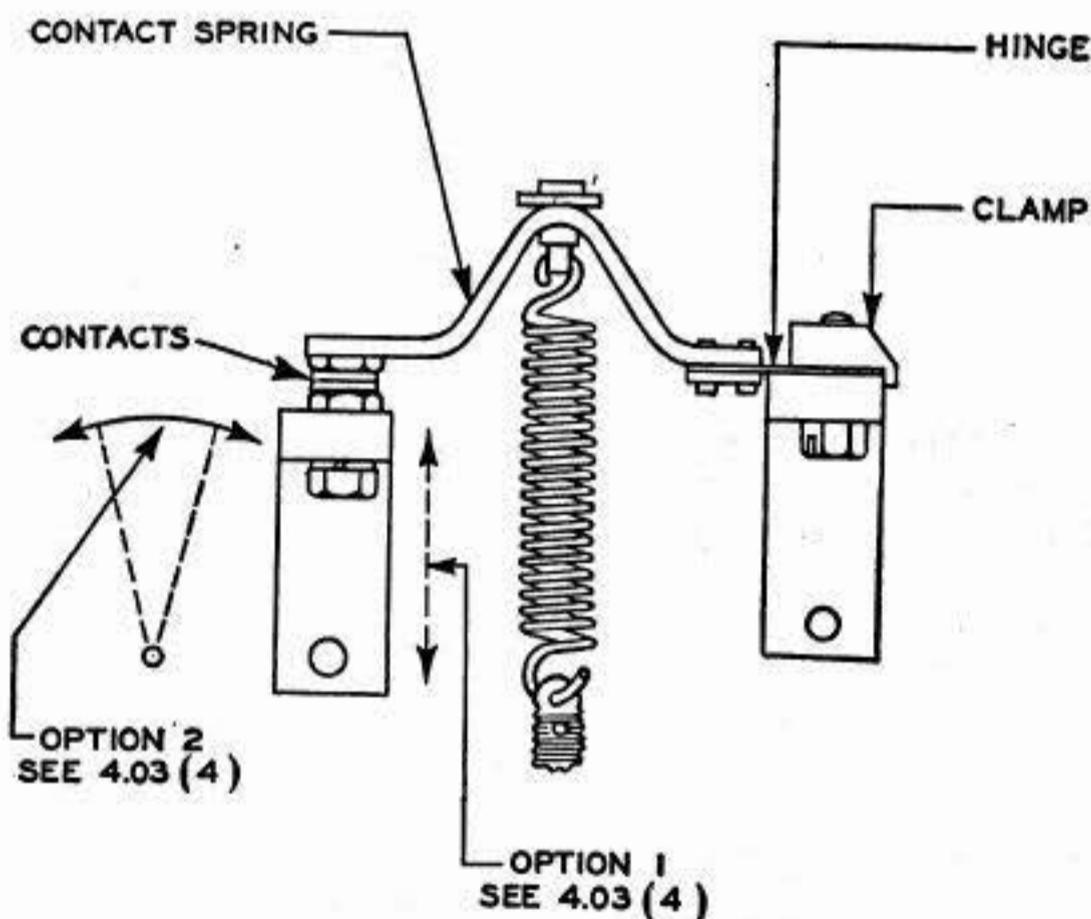

Fig. 6
(1) Adjust the speed-adjusting spring until the contacts just make or to the minimum tension allowed by the adjusting wheel and its screw.
(2) Line up the edges of the contacts by loosening the screw in the contact-spring clamp and reposition the contact spring so that the edge of its contact coincides with the edge of the fixed contact.
(3) In order to align the contacts so that their faces are parallel from front to back as shown in Fig. 6, twist the contact-spring hinge with a pair of long nose pliers by applying pressure to the contact spring near the contact. **Fig. 6**
(4) In order to align the contacts so that their faces are parallel side to side as shown in Fig. 6, one of the two options given below should be used: **Fig. 6**
Where the governor shell is provided with elongated holes for the fixed-contact block mounting screws, loosen the screws and move the block up or down as shown in Fig. 6 until the contact faces are parallel. Tighten the mounting screws. **Fig. 6**
Where the governor shell does not have elongated holes for the fixed-contact block mounting screws, loosen the screws and move the block from side to side as shown in Fig. 6 until the contact faces are parallel. Tighten the mounting screws. **Fig. 6**